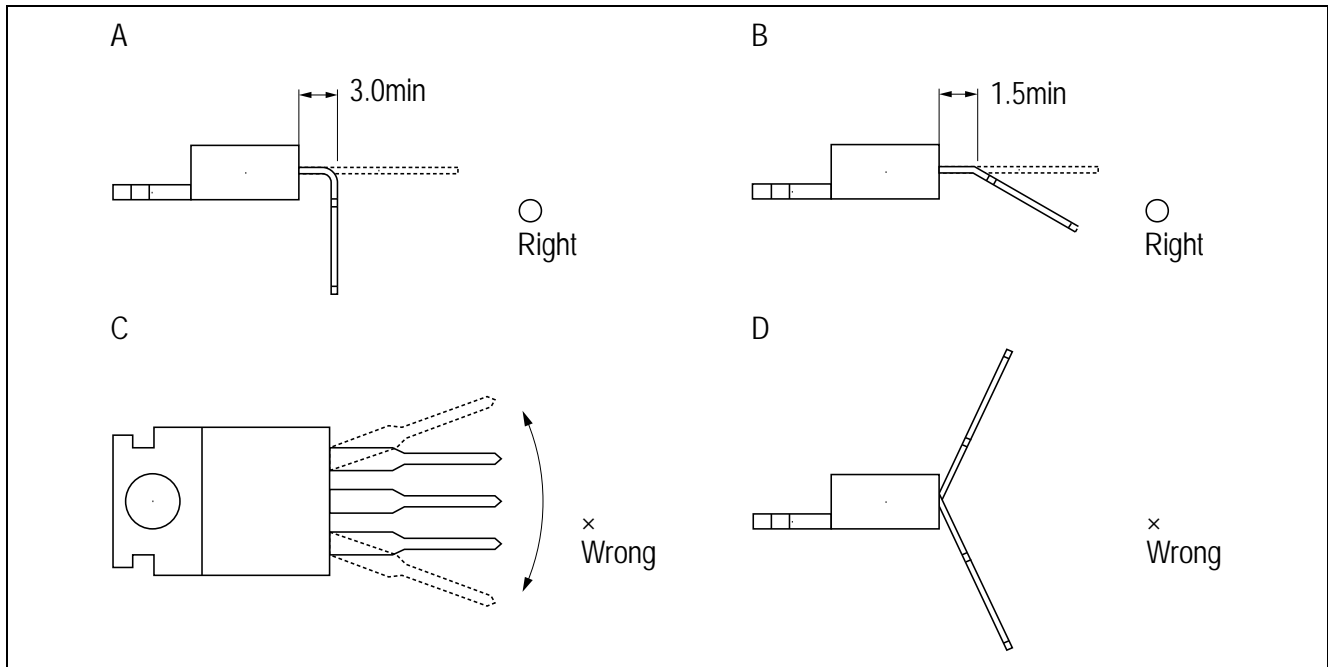

Figure 10. Places and Angles for Lead Bending
- When bending the leads at right angles, make the bend at least 3 mm away from the package end as illustrated in figure 10 (A). Do not bend them more than 90°. When they must be bent less than 90°, allow a space of more than 1.5 mm (See figure 10 (B)).